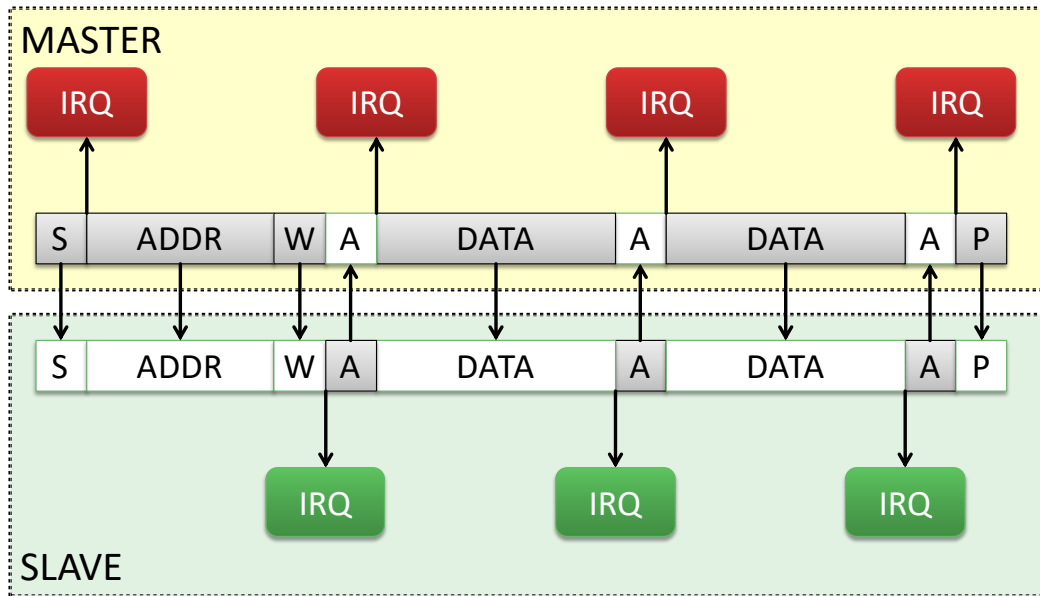

Figure 7.12. SMBus write operation.
The communication is more complicated than in the case of UART or SPI. Two examples in Figure 7.12 and 7.13 show read and write time diagrams and interrupt flag behaviour. It is recommended to handle the transfer in an interrupt routine; however, polling the interrupt bit (SI) can be easier to implement and understand in simple transfers.